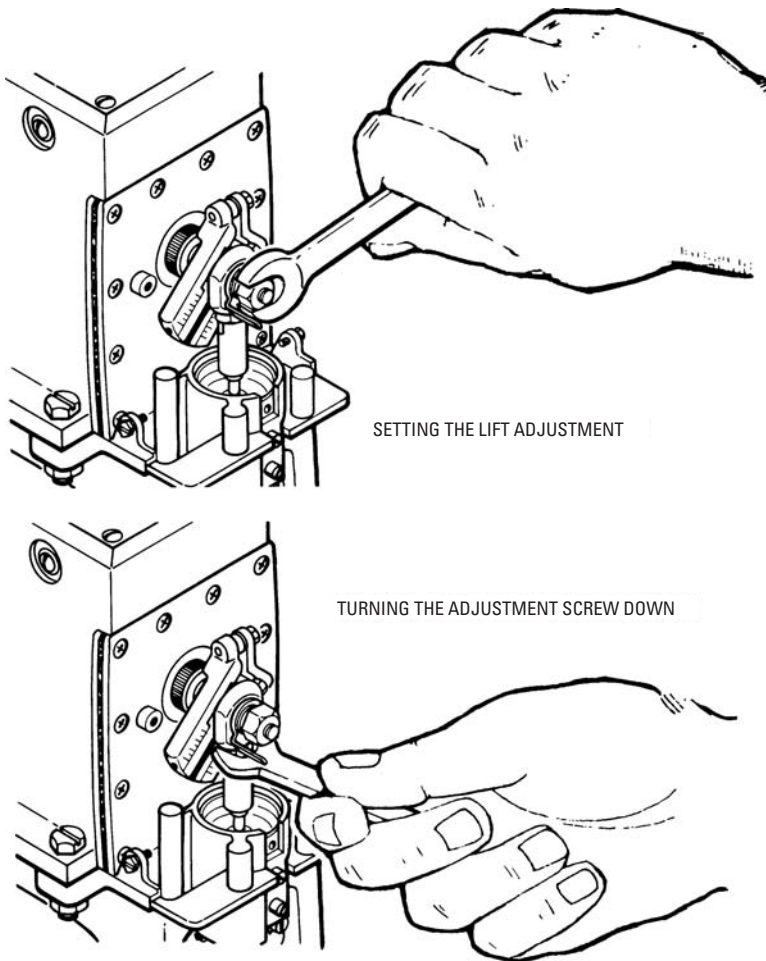

Figure 9-43 Setting the lift adjustment to equal the rated lift of the valve it is used with. (Courtesy Honeywell)
1. Set the lift adjustment on the crank arm to equal the rated lift of the valve (see Figure 9-43).
2. With the motor running closed, turn the adjustment screw down (see Figure 9-43) until the valve is closed and washer A (see Figure 9-44) has been pushed down $\frac{1}{16}$ inch as indicated on the scale marks.